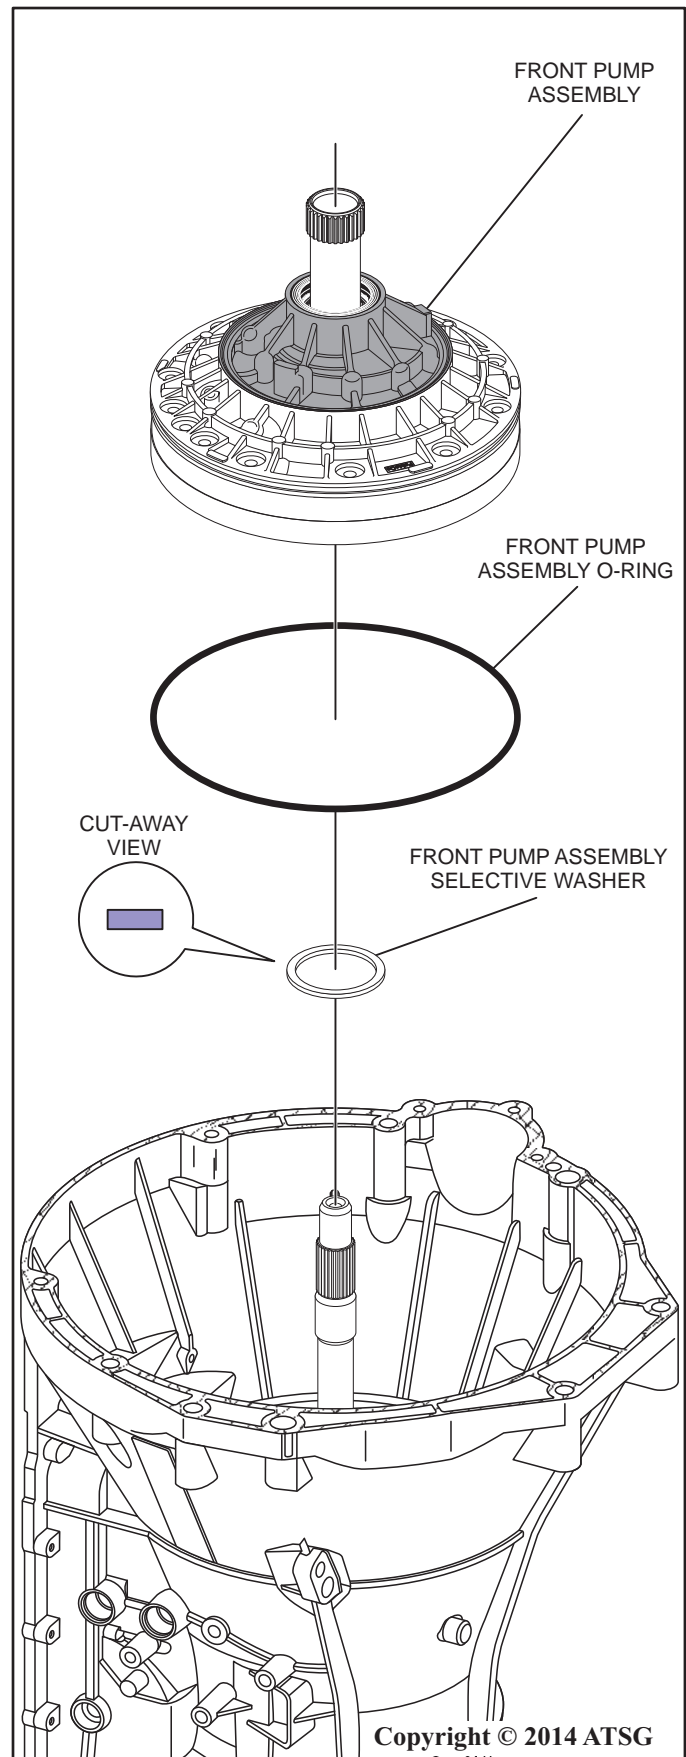

Figure 48
25. Using ST 307-553 or similar pump removal tool and a slide hammer, carefully remove the front pump assembly from the transmission as shown in Figure 48.
26. Remove the o-ring from the front pump assembly as shown in Figure 48, then discard the o-ring and set the pump aside for disassembly and cleaning.
27. Remove the selective washer from the transmission as shown in Figure 48.